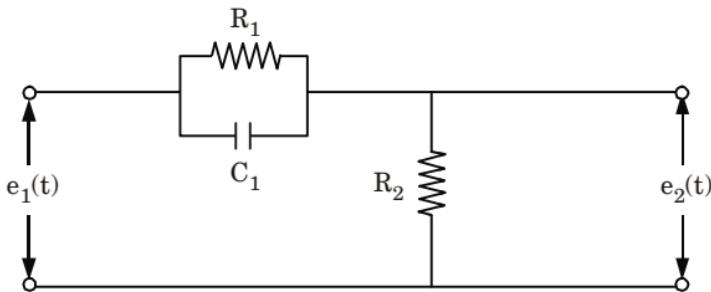

Fig. 3.
- d. Derive the transfer function $E_0(S)/E_1(S)$ of network shown in Fig. 3.